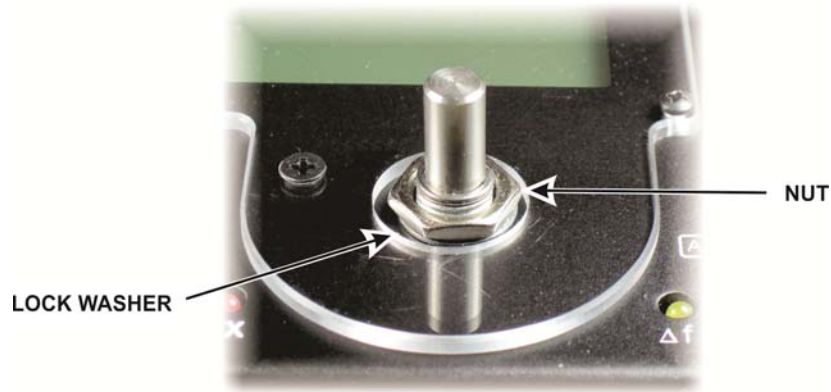

Figure 4. VFO Mounting Hardware.
- Remove the encoder nut and lock washer (Figure 4). Use your needle nose pliers since there is very little space for a wrench.
Replace encoder nut and lock washer on the front (see Figure 4). A wrench is not required. Needle nose pliers apply enough torque to properly secure the encoder.